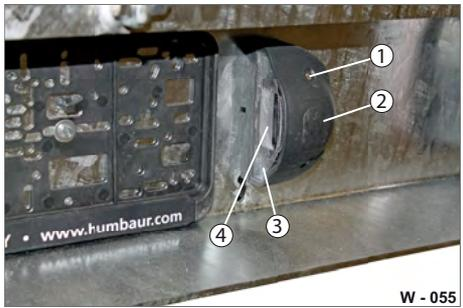

Fig. 66 License/number plate lighting 24 V
- ▶ Release the fixing screws (Fig. 66/1).
- ▶ Carefully open the light body (Fig. 66/2).
- ▶ Remove the lens (Fig. 66/3).
- ▶ Replace the light (Fig. 66/4).